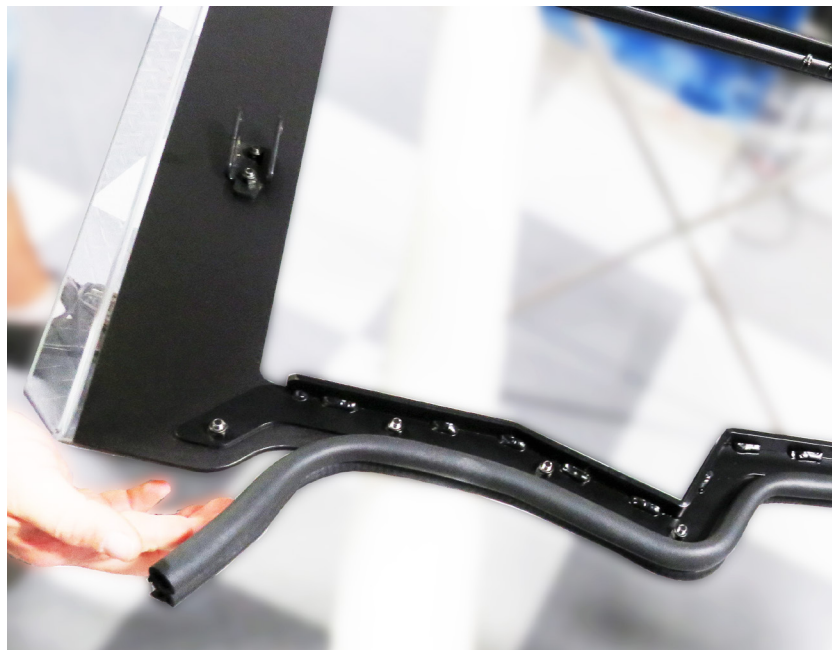

Fig.13
13. Now add the seal strip to the lower edge of the windshield frame as shown in **Fig.13**. This will just slip onto the frame. No adhesive is needed.